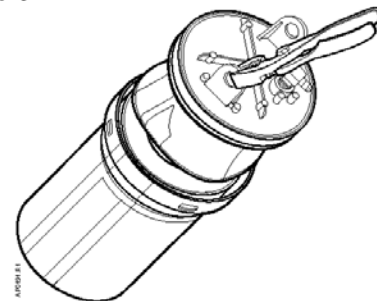

Figure 3.
3. Use the pliers to pull the upper housing and diaphragm out of the lower housing by grasping the pivot post ears or the cross ribs. See Figure 3.